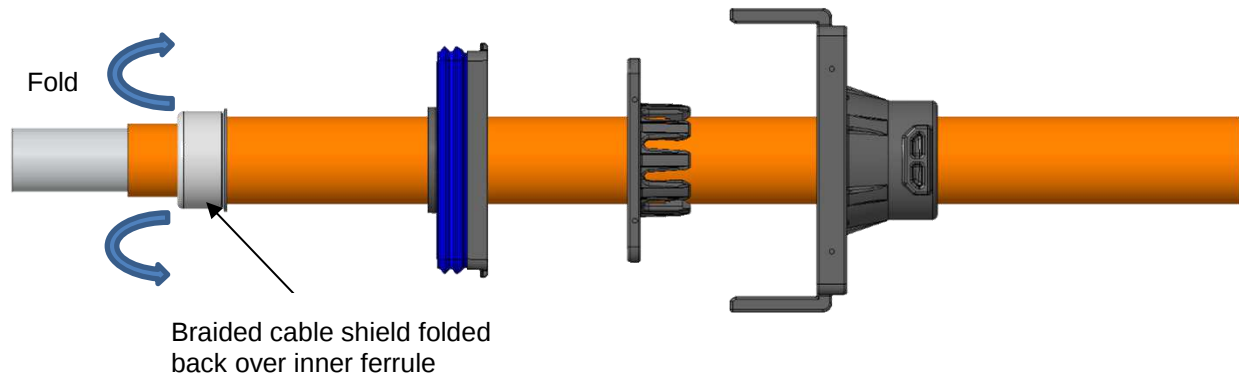

Figure 7: Inner ferrule over outer jacket
4. Fold the braided cable shield back over the inner ferrule, taking care to try to keep inner ferrule positioned such that its edge is flush with the stripped edge of the outer jacket as shown in Figure 7.